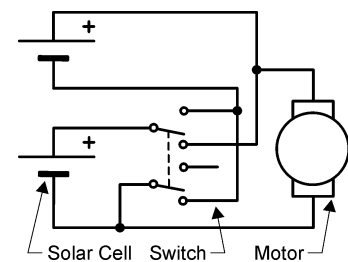

Figure 5 Series/Parallel Circuit
- You may choose to construct a circuit, so that the two sections can be switched between the two variants (ie. series or parallel – Figure 5). It is recommended that a DPDT switch with a central "off" position (not supplied) be used for this option.